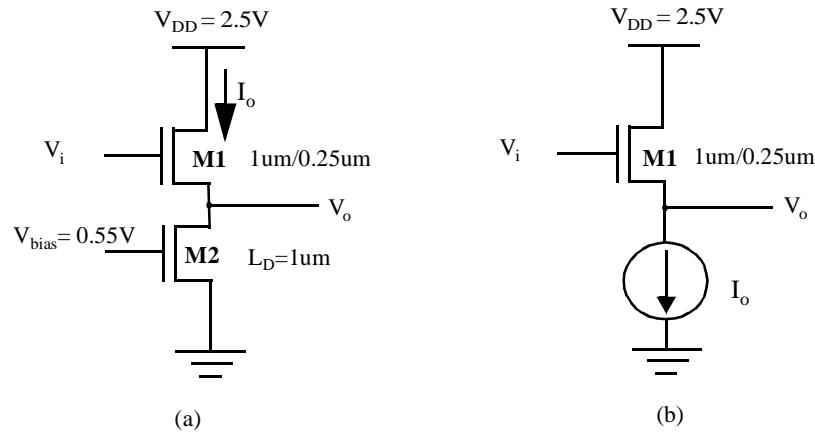

Figure 5.7 NMOS source follower configuration
9. The circuit in Figure 5.7 is known as the *source follower* configuration. It achieves a DC level shift between the input and the output. The value of this shift is determined by the current I_0 . Assume $x_d=0$, $\gamma=0.4$, $2|\phi_f|=0.6V$, $V_{T0}=0.43V$, $k_n'=115\mu\text{A}/\text{V}^2$ and $\lambda=0$.
- a. Suppose we want the nominal level shift between V_i and V_o to be 0.6V in the circuit in Figure 5.7 (a). Neglecting the backgate effect, calculate the width of M2 to provide this level shift (Hint: first relate V_i to V_o in terms of I_o).
- b. Now assume that an ideal current source replaces M2 (Figure 5.7 (b)). The NMOS transistor M1 experiences a shift in V_T due to the backgate effect. Find V_T as a function of V_o for V_o ranging from 0 to 2.5V with 0.5V intervals. Plot V_T vs. V_o .